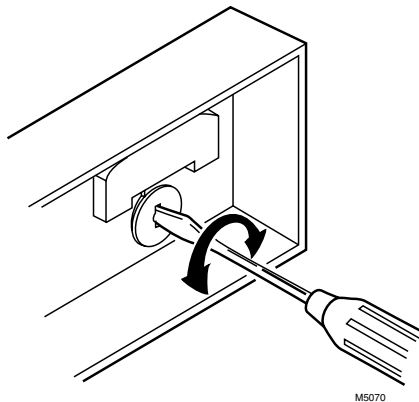

Fig. 11. Thermometer calibration.
- ❶ Remove the thermostat cover by pulling up from the bottom of the cover until it clears the locking springs.
- ❷ Set the cover on a table near an accurate thermometer.
- ❸ After allowing 10 or 15 minutes for stabilization, compare the readings. If they are the same, replace the cover and put the system into operation. If they are different, recalibrate the thermostat thermometer; see step ❹.
- ❹ Insert a small screwdriver into the thermometer shaft and turn it until the thermometers read the same. See Fig. 11. When the thermometer is calibrated, replace the cover and place the system into operation.